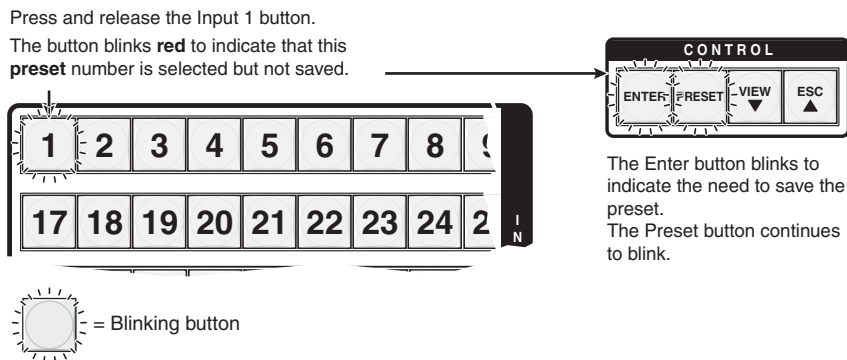

Figure 3-42 — Select the preset
- Press and release the input or output button for the desired preset (figure 3-42).